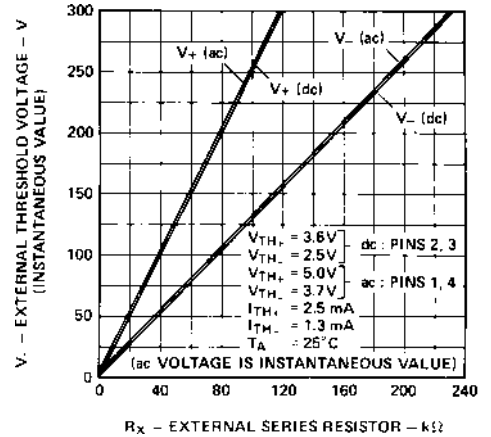

Figure 10. Typical External Threshold Characteristic,  $V_{\pm}$  vs.  $R_x$ .
The HCPL-5760, HCPL-5761, HCPL-576K or 5962-89477 optocoupler has internal temperature compensated, predictable voltage and current threshold points which allow selection of an external resistor,  $R_x$ , to determine larger external threshold voltage levels. For a desired external threshold voltage,  $V_{\pm}$ , a corresponding typical value of  $R_x$  can be obtained from Figure 10. Specific calculation of  $R_x$  can be obtained from Equation (1) of Figure 11. Specification of both  $V_+$  and  $V_-$  voltage threshold levels simultaneously can be obtained by the use of  $R_x$  and  $R_p$  as shown in Figure 11 and determined by Equations (2) and (3).